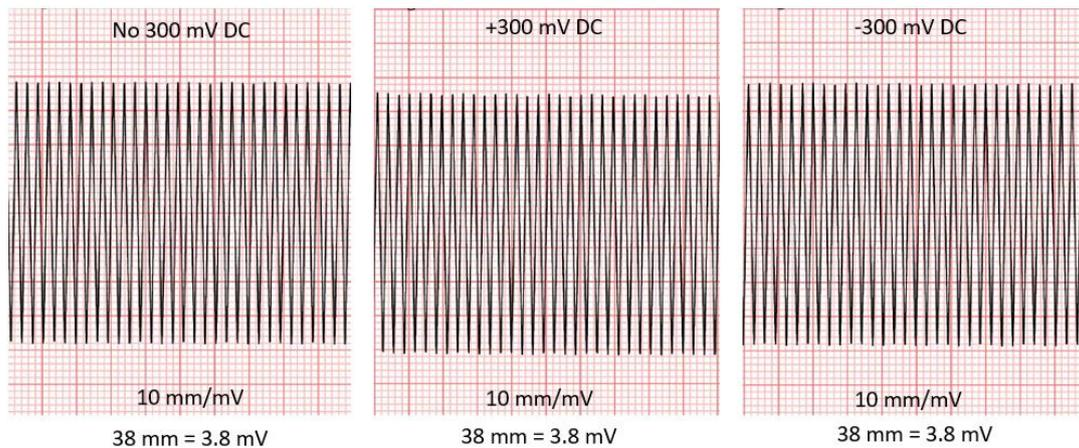

Figure 8, Input triangular wave, 16 Hz, 4 mV, without 300 mV DC and with +/- 300 mV DC offset voltage, the amplitude displayed by DUT ECG lead I.
- 13) Set a DC offset voltage of +300 mV and then -300 mV to measure the DUT ECG output amplitude. The amplitude is compared with the previously recorded amplitude A, and the deviation shall within $\pm 10\%$. Figure 8 shows the DUT ECG lead I amplitude displayed when without 300 mV DC offset applied and with +/- 300 mV DC offset applied. All three test results are 3.8 mV, so they pass the test.